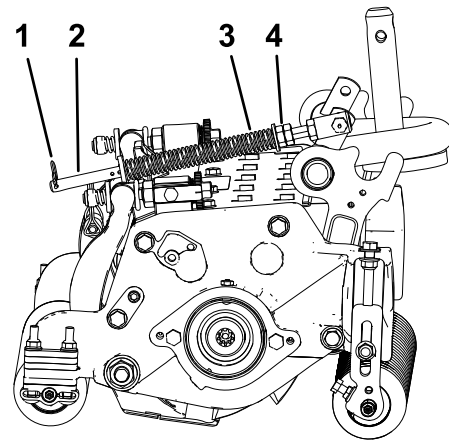

Figure 13
2. Tighten the hex nuts on the front end of the spring rod until the compressed length of the spring is 15.9 cm (6.25 inches) (Figure 13).
1. Make sure that the hairpin cotter is installed in the rear hole in the spring rod (Figure 13).